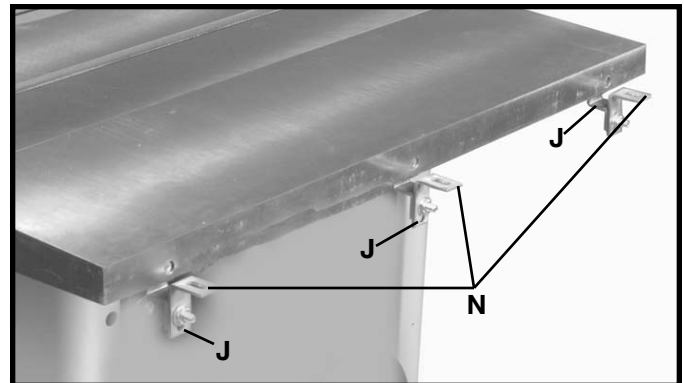

Fig. 46
10. Fig. 46, illustrates angle brackets (N) properly assembled to Z-brackets (J).